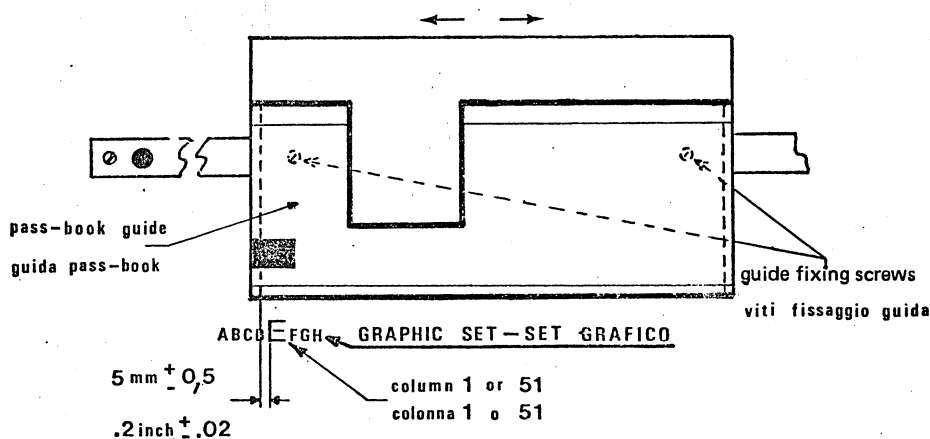

Fig. 8-29
- Print the graphic set through the local test and move the guide horizontally till the required condition is obtained (fig. 8.29)